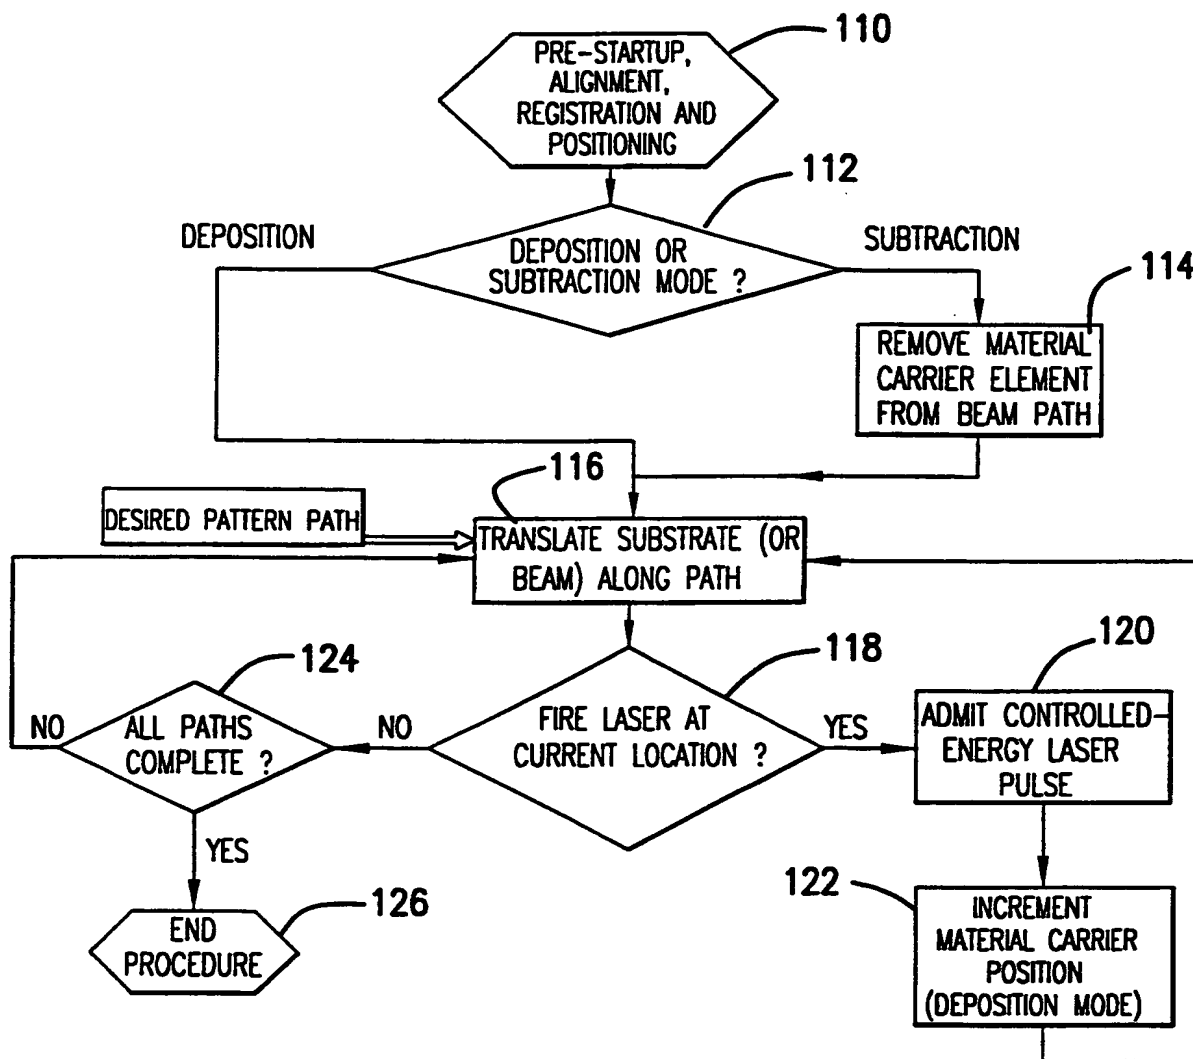

FIG.7
FIG. 7 is a flowchart illustrating a process for material deposition or subtraction. The process begins with a pre-startup, alignment, registration, and positioning step (110). A decision is made (112) whether the mode is deposition or subtraction. If subtraction, material is removed from the beam path (114). Both paths lead to translating the substrate or beam along the desired pattern path (116). A decision is made (118) whether to fire the laser at the current location. If yes, a controlled-energy laser pulse is admitted (120), and the material carrier position is incremented (122) in deposition mode. If no, the process checks if all paths are complete (124). If yes, the procedure ends (126). If no, the process loops back to the laser firing decision (118).